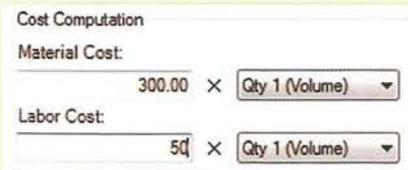

Fig 3: Cost Computation
- Labor Cost = Rs. 50/- (Figure 3)